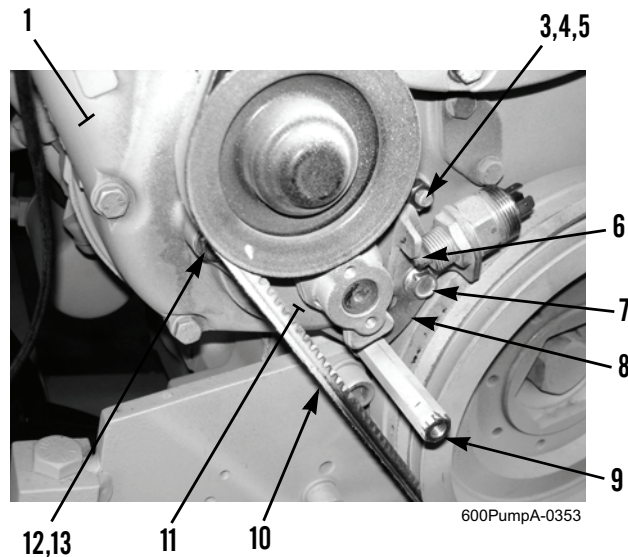

Figure 6. Tensioner Pulley Assembly - Installed View.
3. Apply two drops of adhesive to bolt (Figure 6, Item 12).
4. Install V-belt tensioner pulley assembly (Figure 6, Item 11), washer (Figure 6, Item 13), and bolt (Figure 6, Item 12) on engine front cover (Figure 6, Item 1).
5. Install washer (Figure 6, Item 4) and nut (Figure 6, Item 3) on stud (Figure 6, Item 5).
6. Tighten nut (Figure 6, Item 3) and bolt (Figure 6, Item 12) to 16 lb-ft (21 Nm).
7. Install stop bracket (Figure 6, Item 8) and screwed bush (Figure 6, Item 9) on V-belt tensioner pulley assembly (Figure 6, Item 11).
8. Install bolt (Figure 6, Item 7) on stop bracket (Figure 6, Item 8).
9. Push inward and upward on tensioner pulley assembly (Figure 6, Item 2), install cooling fan V-belt (Figure 6, Item 10), and release tensioner pulley assembly to restore tension to cooling fan V-belt. Ensure plunger (Figure 6, Item 6) is no longer depressed.